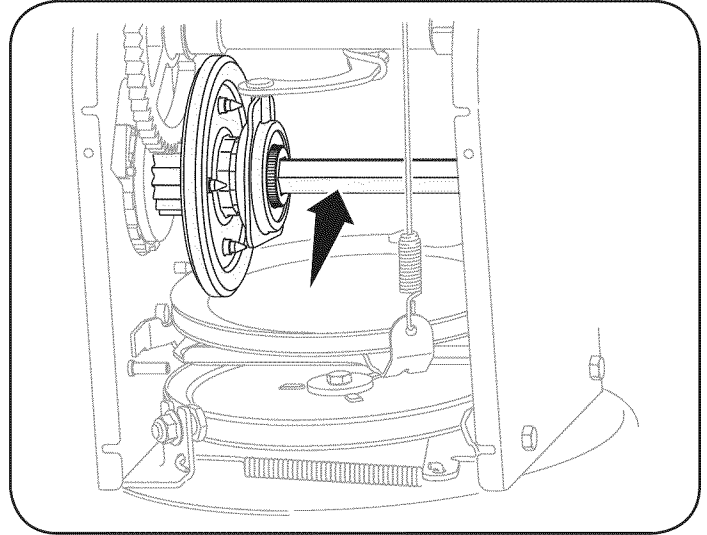

Figure 24
4. Apply a light coating of Bostik Regular grade Never-Seez to the hex shaft. See Figure 24.